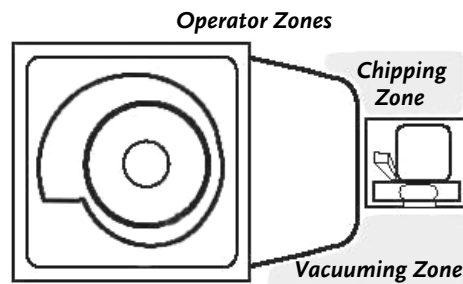

Figure 28
NOTE: *Always* be sure to stand inside the **Operator Zones** to run the DR LEAF and LAWN VACUUM as a Chipper or Hand Held Vacuum. These are the areas on either side of your machine (**Figure 28**).
- ALWAYS OPERATE THE CHIPPER FROM THE "CHIPPING ZONE" (SEE FIGURE 28 ON PAGE 28).